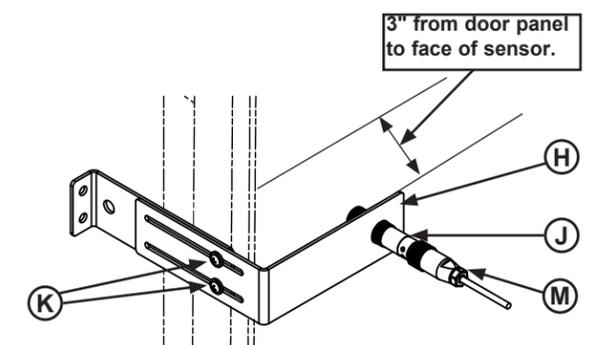

Figure 3
5. Mount the door open sensor (J) into the bracket (H), using the included plastic nuts. See Figure 3.